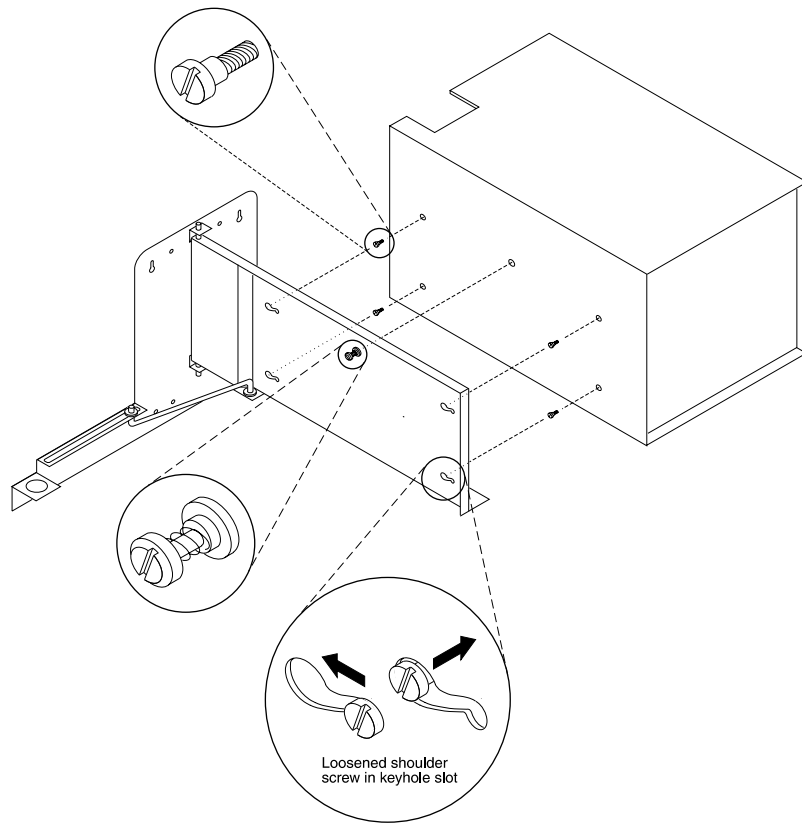

Figure 9-8. Exploded View of Wall-Mounted DEFINITY ECS R5vs System
1. Loosen the four shoulder screws (approximately one complete turn) holding the DEFINITY ECS R5vs cabinet to the mounting panel (see Figure 9-8).